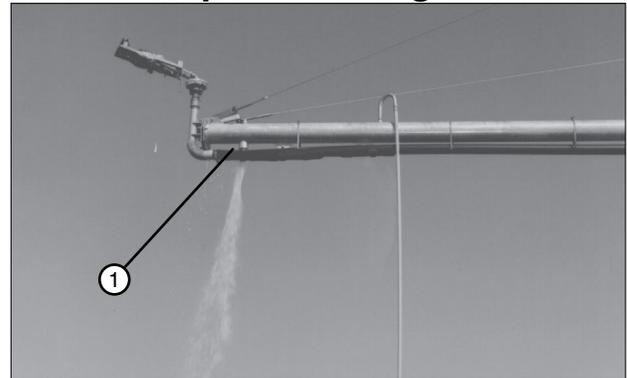

Figure 53-1 1. Overhang Drain
4. Remove plugs from the overhang drain. See figure 53-1.